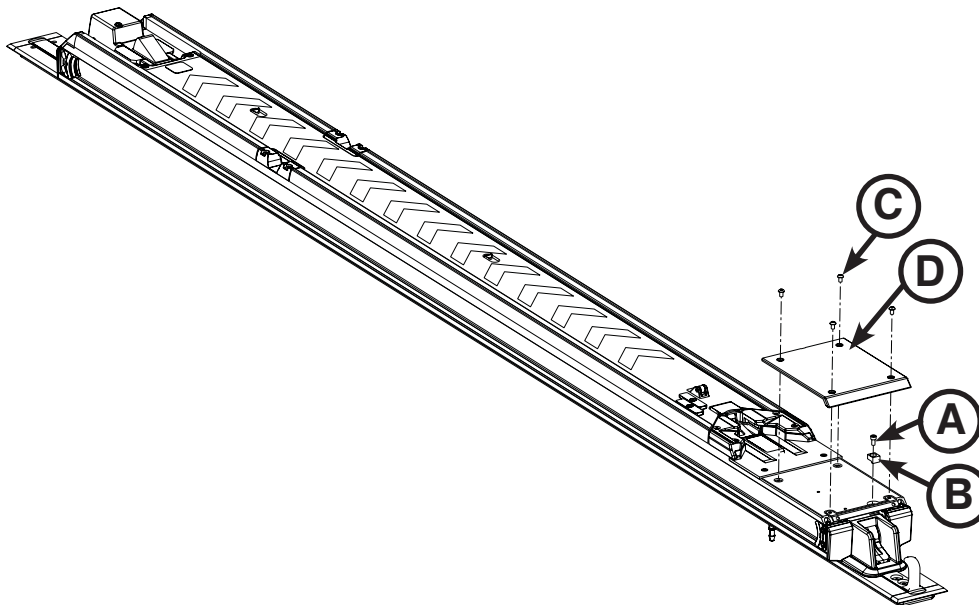

Figure 19: Attach the Foot End Transfer Wear Pad
- Using a 5/32" Allen wrench, install the supplied socket head cap screw (0004-658-000) (A) to secure the supplied trolley magnet activator (6390-0001-106) (B) as shown in Figure 19.
- Using a T25 Torx driver, install four supplied button head cap screws (0004-665-000) (C) to attach the supplied foot end transfer wear pad (6390-001-225) (D) to the transfer assembly as shown in Figure 19.